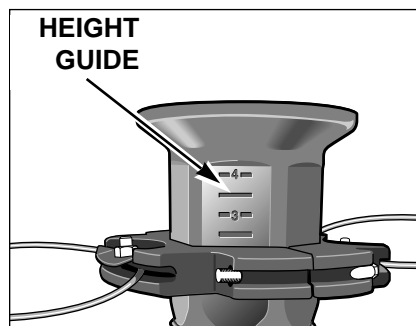

Figure 4-2
- C. Note the cutting heights marked on the side of the spindle head (Figure 4-2). Move the top of the trimmer head to the desired setting.